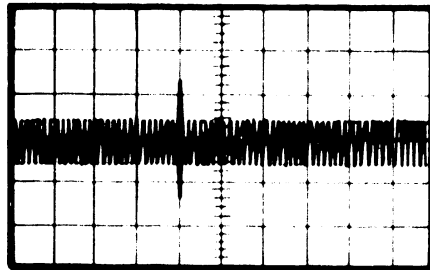
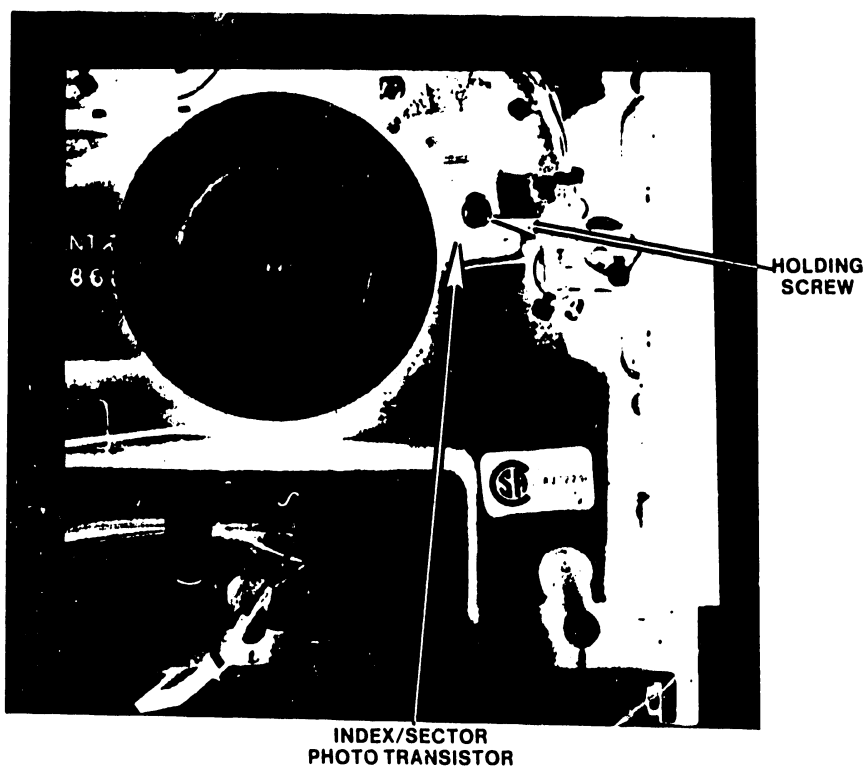

FIGURE 1 INDEX PULSE TIMING
FIGURE 2 INDEX/SECTOR ADJUSTMENT
5. Hit ENTER and observe that the timing between the start of the sweep and the Index pulse is $200 \text{ usec} \pm 100 \text{ usec}$ (Figure 1). If not, slightly loosen the holding screw on the index/sector photo transistor (Figure 2) and reposition it. Tighten the screw and recheck the timing again. Repeat as necessary.